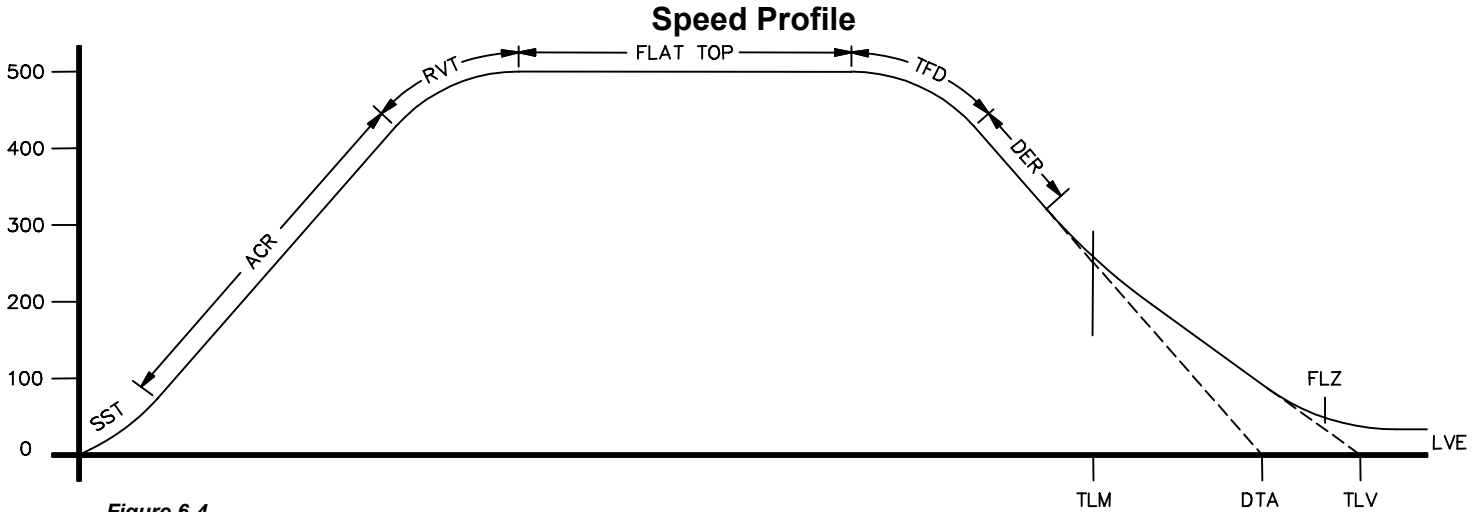

Figure 6-4
4. Using the parameters listed in Figure 6-4, adjust the “S Curve” profile for the desired acceleration and deceleration ride profile.